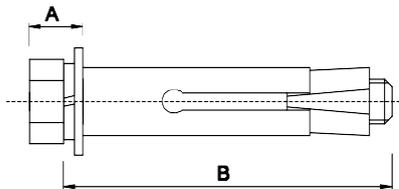

Figure 1
1. Installation requires M5 or M6 expansion bolts with the required size as shown in Figure 1 (this bolt needs to be purchased by the customer);